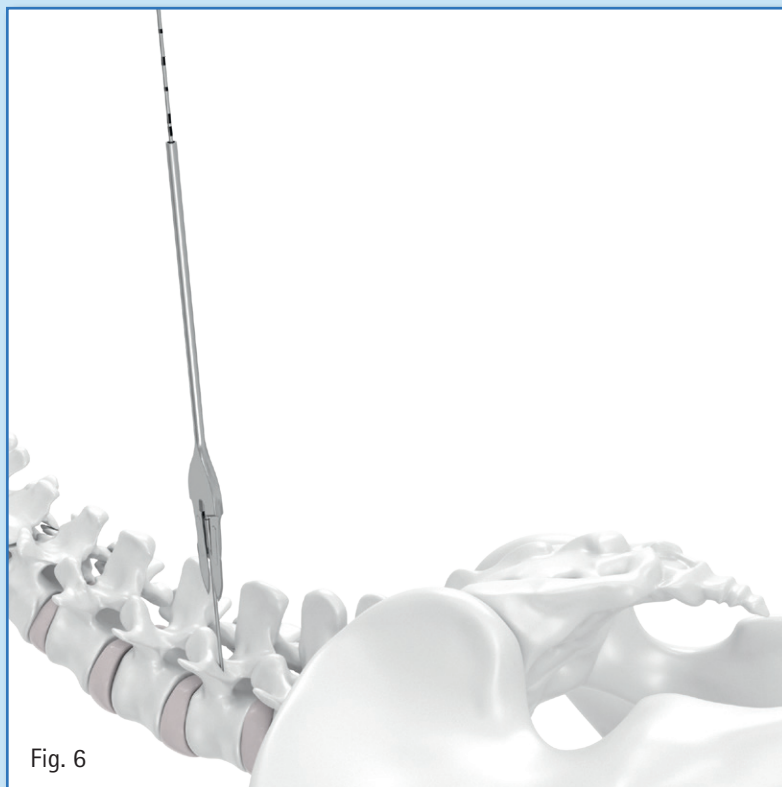

Fig. 6
5. For an appropriate incision length, slide the Skin Incision Guide (SZ371R) over the K-Wire and perform skin incision. (Fig. 6)